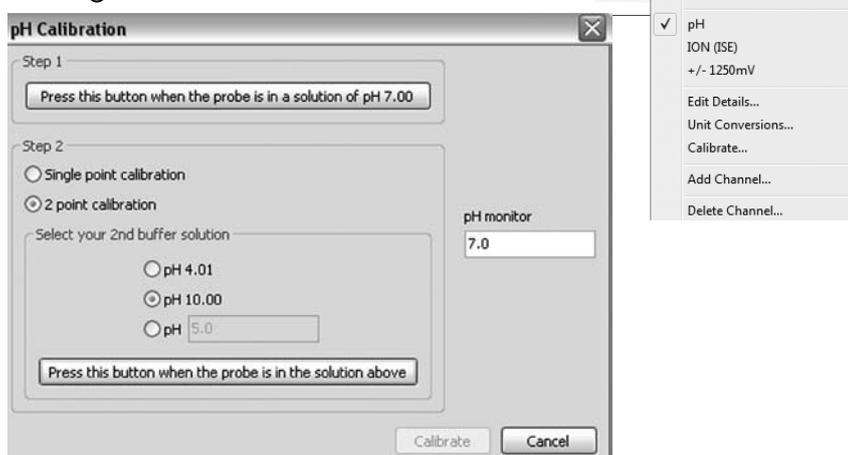

fig 2
3. If performing a single point calibration proceed to step 8, otherwise place the electrode in a second buffer and select this buffer value as shown in fig 2 (the example shows a buffer of 10).